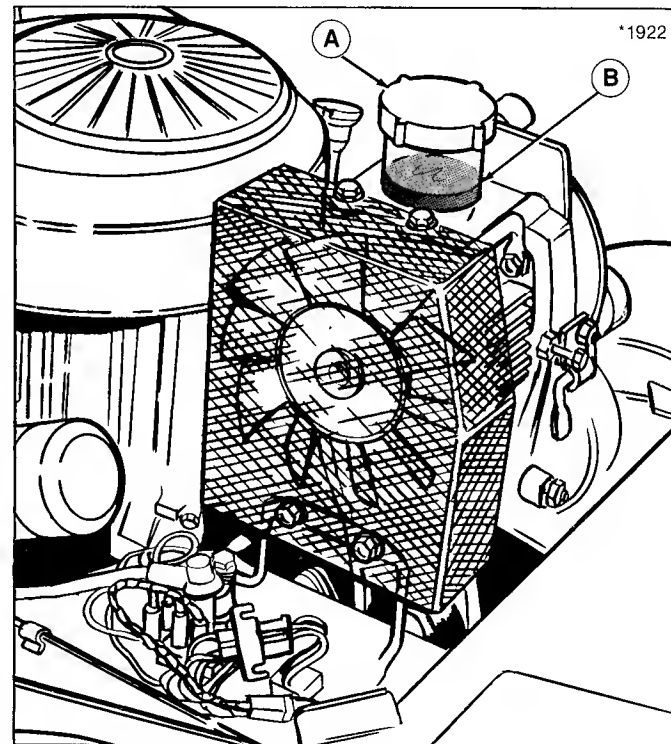

Figure 20. Hydrostatic Reservoir
2. The fluid level is visible in the reservoir (figure 20) without removing cap. The level should be at FULL COLD mark. If not, go to step 3.
3. Clean the area around the reservoir (A, figure 20) and remove the reservoir cap. Add multipurpose hydraulic/transmission oil as required (see your dealer for recommendation). In extremely hot weather, 30W oil may be used for hydro pump. Do not mix multipurpose oil with 30W oil. Drain hydro system completely and refill with appropriate oil.
If reservoir is empty, clean area around vent plug (B, figure 20) and remove plug. Add oil through reservoir until fluid appears at vent plug opening. With clutch/brake pedal down, rotate fan or belt to remove trapped air. Reinstall vent plug. Fill reservoir to "Full Cold" mark. If the oil is black or milky, see your dealer to determine cause.